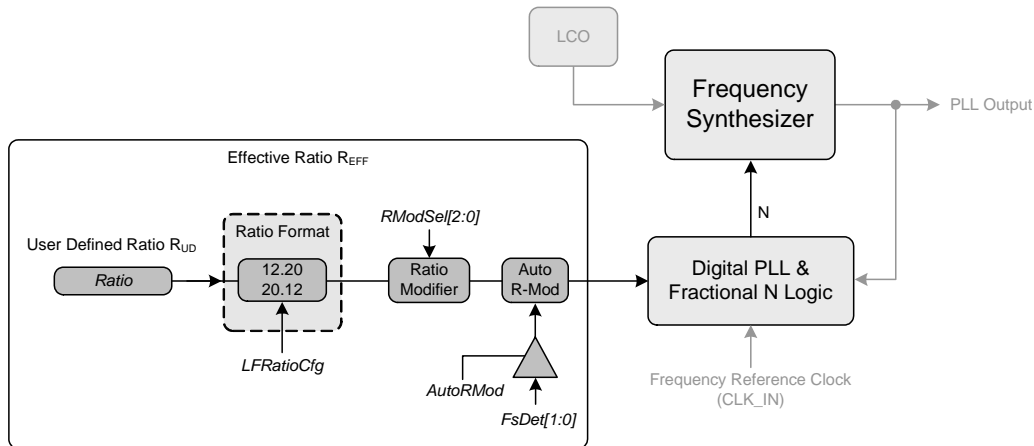

Figure 12. Ratio Feature Summary
The R_{UD} is the user defined ratio stored in the register space. The resolution for the R_{UD} is selectable by setting *LFRatioCfg*. R-Mod is applied if selected. The user defined ratio, ratio modifier, and automatic ratio modifier make up the effective ratio R_{EFF} , the final calculation used to determine the output to input clock ratio. The conceptual diagram in Figure 12 summarizes the features involved in the calculation of the ratio values used to generate the fractional-N value which controls the Frequency Synthesizer.
- Changes made to the registers which affect the Fraction-N value that is used by the Frequency Synthesizer. This includes all the bits shown in Figure 12 on page 18.